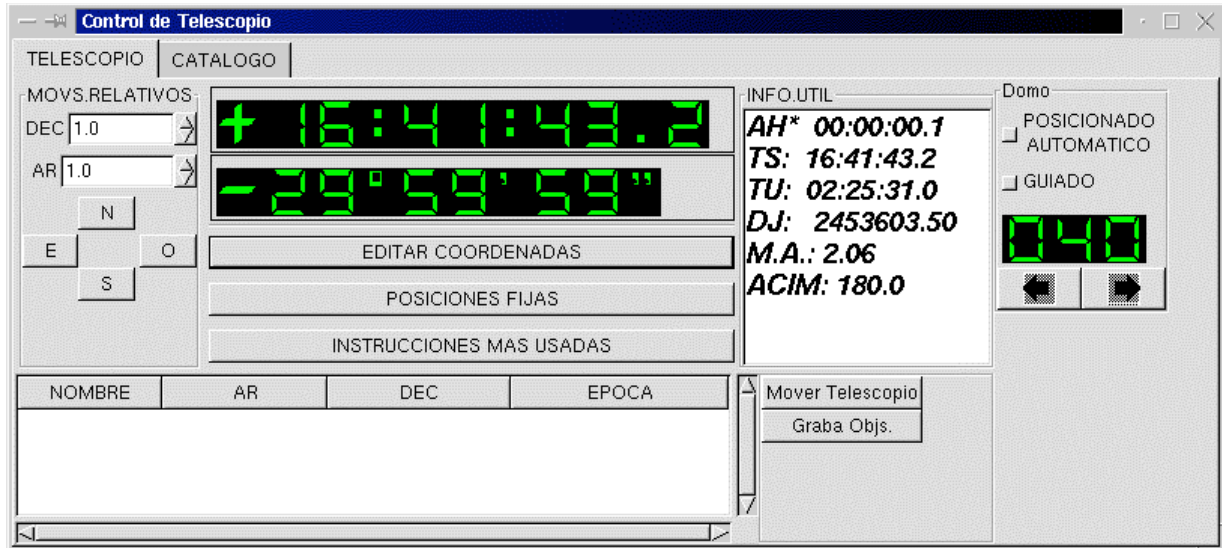
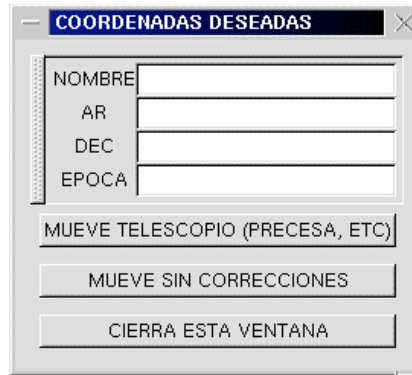

Figure 4: The main window of the telescope console's graphical interface
Figure 5: The window used to enter object coordinates.
Figure 4 presents the main window of the telescope console's graphical user interface.
The graphical interface opens the window shown in Figure 4. There are two tabs: TELESCOPIO and CATALOGO. The TELESCOPIO page is the console interface proper while the CATALOGO page is used to manage object catalogs. Upon starting, a default catalogue containing very bright stars as well as Landolt standards (Landolt 1973, 1983, 1992) is loaded (/home/observa/default.cat). Object lists of stars arranged by magnitudes can be also loaded from /home/observa/Catalogs/. It is also possible to load an object list with the coordinates for your objects. See the default catalogue for the file format. To move the telescope to a catalogue object, select the object and then click on the MUEVE TELESCOPIO button.
- a. The EDITAR COORDENADAS button opens a window in which object coordinates and epoch are entered (Figure 5). To move the telescope to these coordinates, accounting for precession and the pointing map, click MUEVE TELESCOPIO (PRECESA, ETC). Should you not want to correct for precession or the telescope pointing map (probably a poor idea), click MUEVE SIN CORRECCIONES. This window may be left open while working with other windows.
Across the bottom of the TELESCOPIO page (Figure 4) is an object catalogue interface with two buttons (Mover Telescopio and Graba Objs.). All object coordinates entered using the EDITAR COORDENADAS window (Figure 5) are stored here for future use. In theory, selecting an object from this list and pressing the Mover Telescopio button sends the telescope to the object position. However, this works only erratically. The Graba Objs. button
By default, dome control is not active when the control program starts. To set the dome to follow and track the telescope position, select the push buttons for POSICIONADO AUTOMATICO and GUIADO from the telescope console interface (Figure 4).
While the dome program is running, the dome may be positioned manually in a variety of ways. However, if POSICIONADO AUTOMATICO and GUIADO are activated, manual positioning is not recommended, since the control program will immediately return the dome so that it does not occult the telescope once the manual dome movement is released, possibly severely jarring the dome. If these options are not activated, it is possible to move the dome using (a) either of the hand paddles (at the telescope or in the control room), (b) the arrows below the window indicating the dome azimuth (see Figure 4), or (c) positioning the cursor over the window indicating the dome azimuth, clicking with the right mouse button, specifying the desired azimuth in the window that opens, and finally selecting this window's MOVER button.